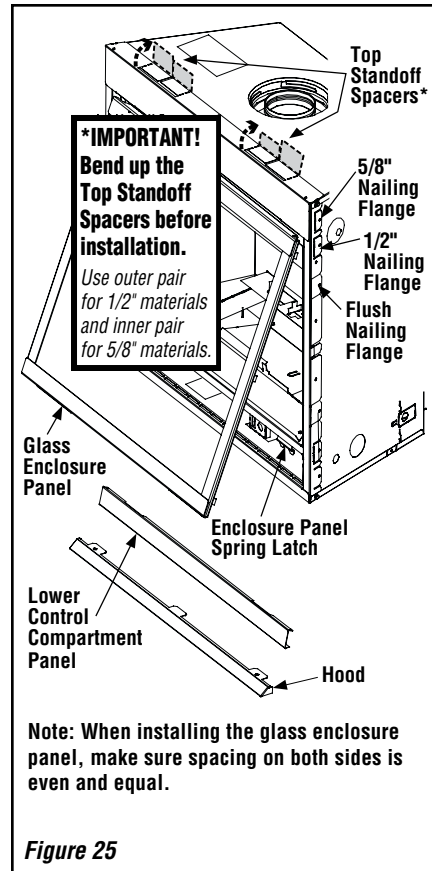

Figure 25
1. Refer to **Figure 25**. Position the glass enclosure panel in front of the firebox opening, with the bottom of the enclosure panel held away from the fireplace. Hook the top flange of the enclosure panel frame over the top of the firebox frame.
1. Refer to **Figure 25**. To access the spring latches securing the front glass enclosure panel, open the lower control compartment door by lifting and pulling the bottom panel forward.
- 4 - *Refer to Figure 25 on Page 20.* Open both latches under the firebox floor securing the glass enclosure panel. Remove the panel by tilting it outward at the bottom and lifting it up. Set aside the panel, taking care to protect it from damage.